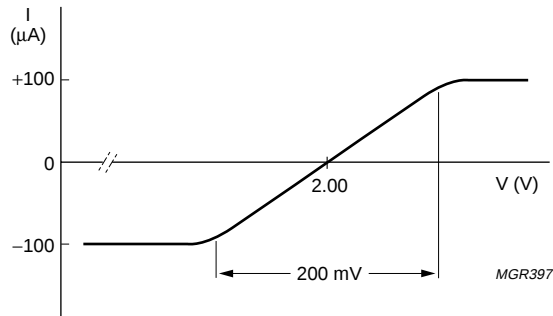
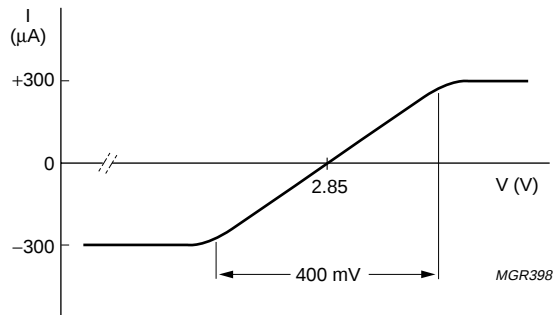
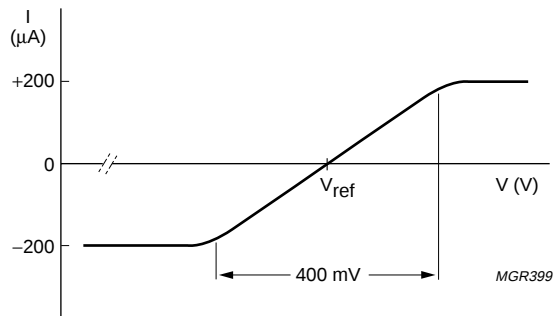

Fig.9 Typical clamp current for pin CPCDS.
Fig.10 Typical clamp current for pins IND and INP.
Fig.11 Typical clamp current for pin V_{ref} .
- More information about CDS related signals is available in the following figures: The clamp current for pin CPCDS is given in Fig. 9, clamp current for pins IND and INP in Fig 10 and for clamp current for pin V_{ref} in Fig 11. The CDS output amplitude is shown in Fig. 14